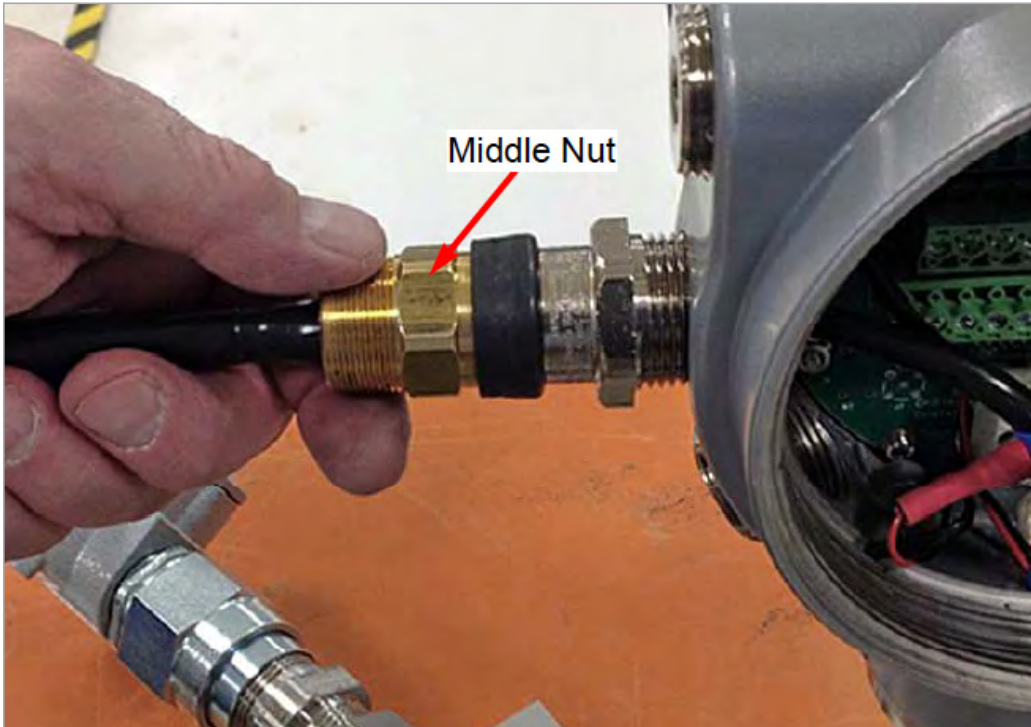

Figure 10: Tightening the middle nut by hand
7. Tighten the *Middle Nut* completely by hand (see *Figure 10* below).